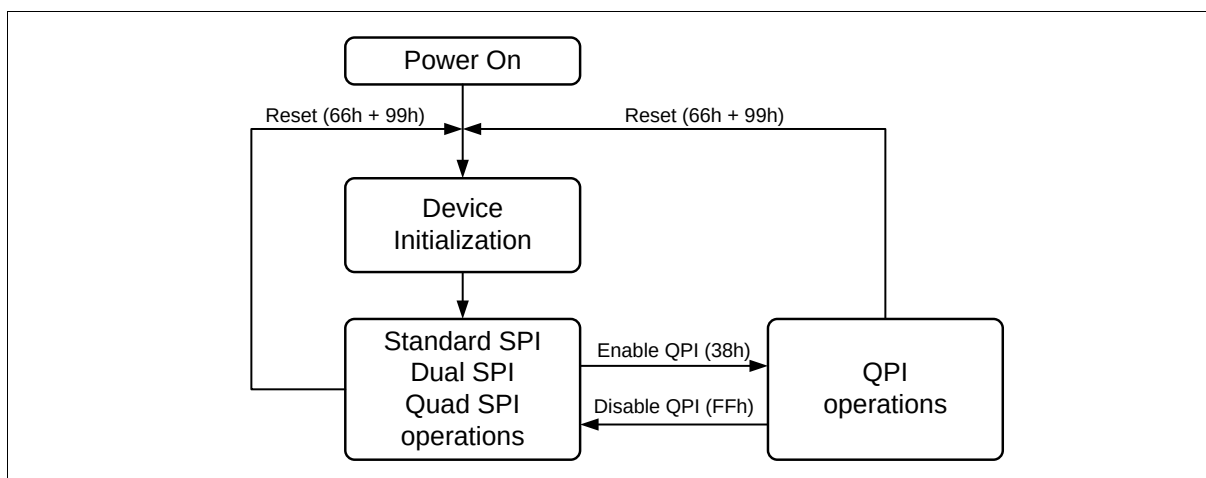

Figure 2 FM25W04 Serial Flash Memory Operation Diagram
The FM25W04 supports Quad Peripheral Interface (QPI) operations only when the device is switched from Standard/Dual/Quad SPI mode to QPI mode using the “Enable QPI (38h)” instruction. The typical SPI protocol requires that the byte-long instruction code being shifted into the device only via DI pin in eight serial clocks. The QPI mode utilizes all four DQ pins to input the instruction code, thus only two serial clocks are required. This can significantly reduce the SPI instruction overhead and improve system performance in an XIP environment. Standard/Dual/Quad SPI mode and QPI mode are exclusive. Only one mode can be active at any given time. “Enable QPI (38h)” and “Disable QPI (FFh)” instructions are used to switch between these two modes. Upon power-up or after a software reset using “Reset (99h)” instruction, the default state of the device is Standard/Dual/Quad SPI mode. To enable QPI mode, the non-volatile Quad Enable bit (QE) in Status Register-2 is required to be set. When using QPI instructions, the DI and DO pins become bidirectional DQ_0 and DQ_1 , and the WP# and HOLD# pins become DQ_2 and DQ_3 respectively. See Figure 2 for the device operation modes.